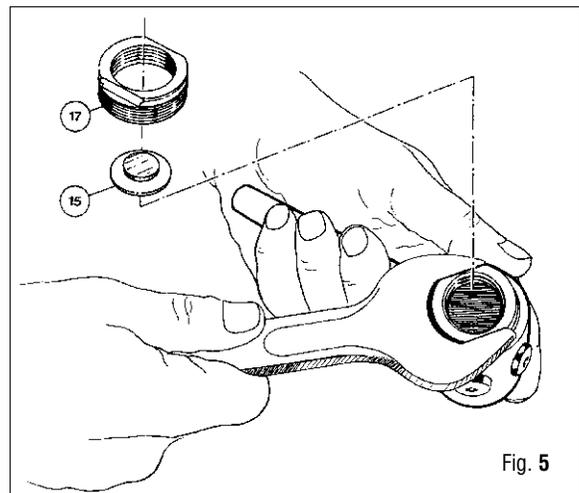
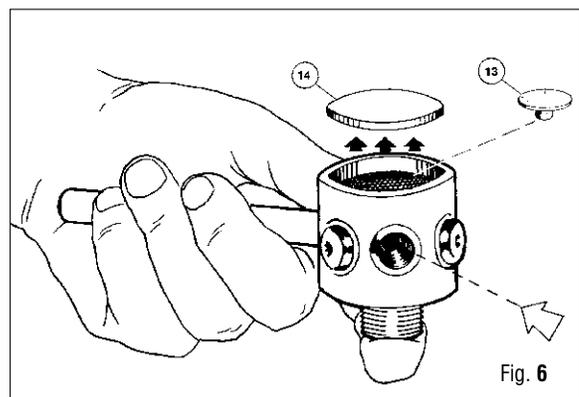

Fig. 5
Fig. 6
9. Unscrew retaining nut (17) with wrench B-16 and remove spring base plate (15). (Fig. 5)
10. Introduce compressed air (less than 7 bar - 101.5 psi) through a low pressure port (3/8"), then remove diaphragm (14) and poppet button (13).
**NOTE** To facilitate diaphragm removal, plug (e.g. with a finger) the inlet to the HP poppet retainer. (Fig. 6)